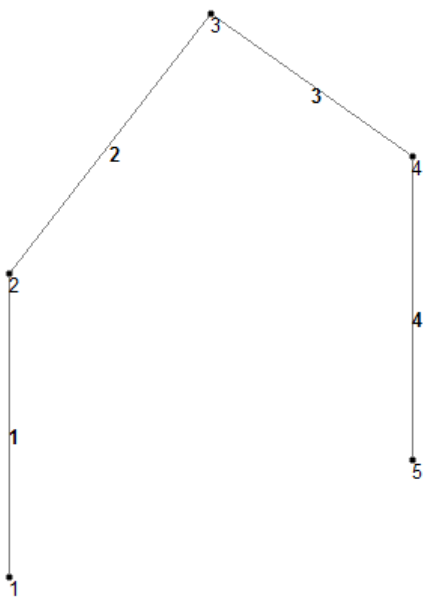

Figure 2-9 Members created to complete the structure
Step 3: Choose the **Save** button from the toolbar in the **STAAD Editor** window and then close it; the members are generated. Press SHIFT+B to view the member numbers, refer to Figure 2-9.